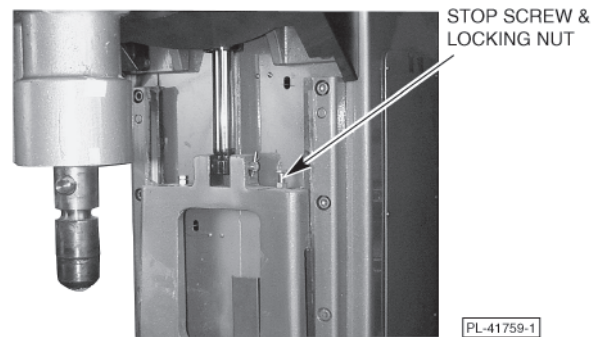

Fig. 9
- Loosen the bottom locking nut, (Fig. 9) and turn the stop screw counterclockwise to increase the clearance or clockwise to decrease the clearance.